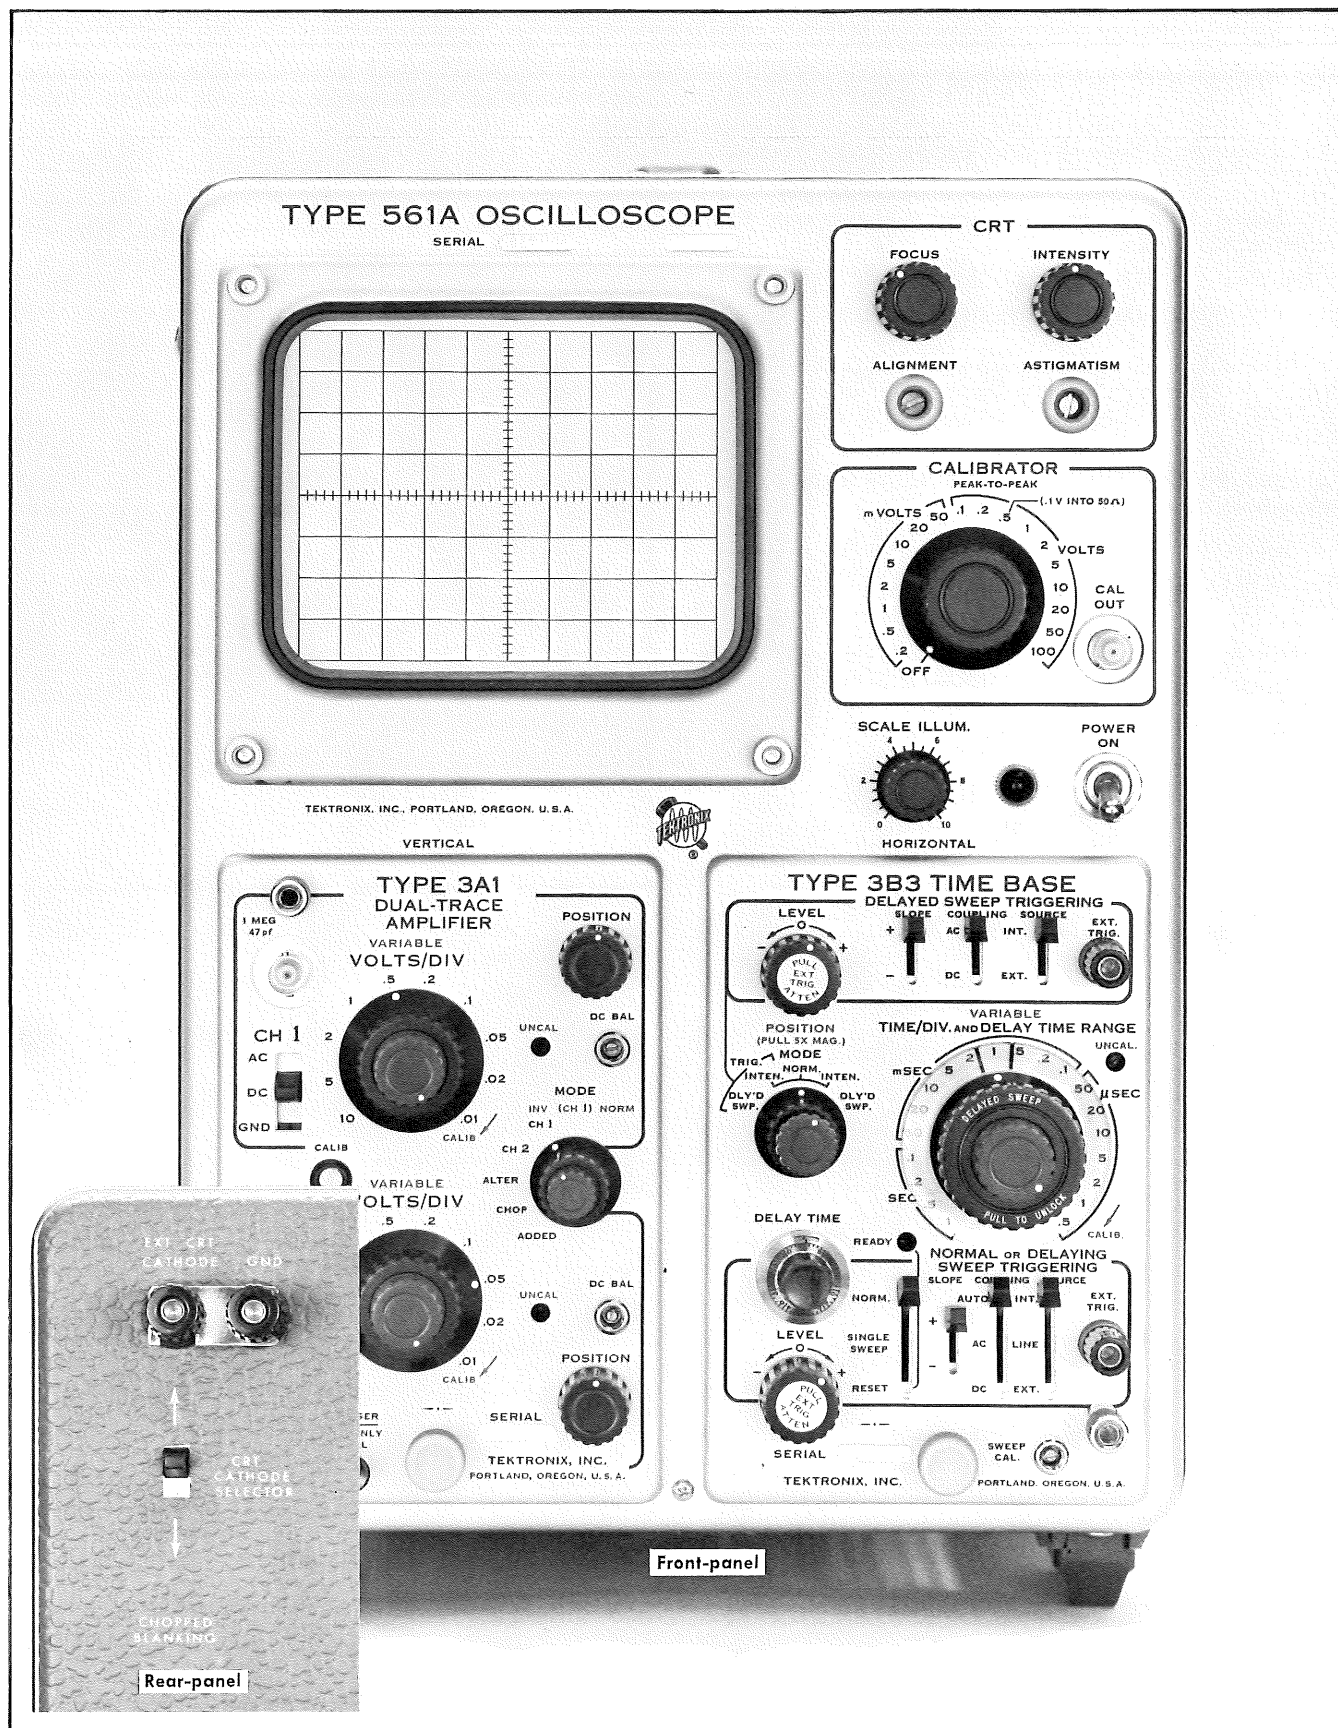

Fig. 3. Type 561A showing control settings for calibration procedure.
4. Preset the Type 561A front-panel controls as follows (see Fig. 3):